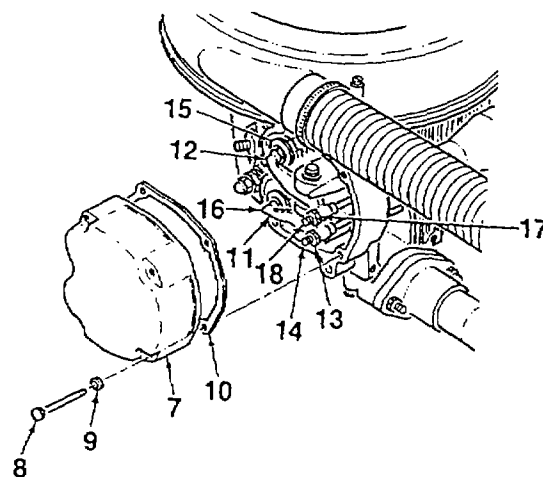

Figure 4-37. Valve Clearance Adjustment
2. Disconnect engine exhaust bellows (1, Figure 4-37) from rear of valve access door (2) by removing screw (3), lockwasher (4), and washer (5). Disconnect air hose (6) only if replacement is required.
3. Open valve access door (2) by turning door latches.